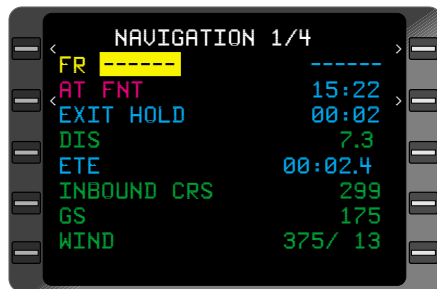

Figure 3-117
2. Line Select Key - DEPRESS to position the cursor over **FROM** field (**HOLD RIGHT/LEFT**). (Figure 3-117)